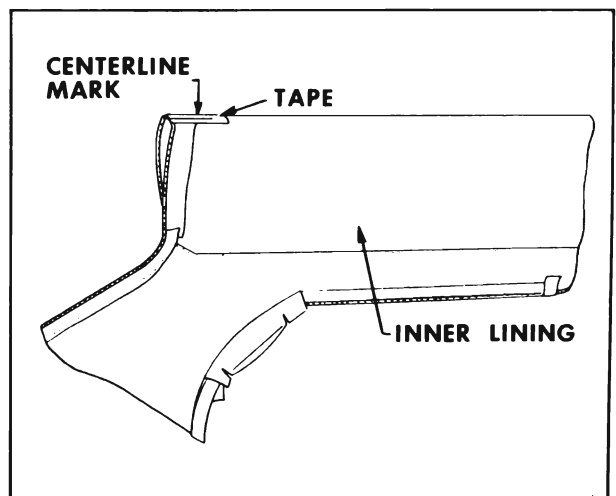

Figure 7-43—Centering of Convertible Top Material
23. Fold new top material in half so that inner lining of top material is exposed (see Figure 7-43). Install a 6" piece of tape on inner surface at centerline fold of new top material (see Figure 7-43). Using a pencil, mark the approximate centerline of new top material along entire length of tape.